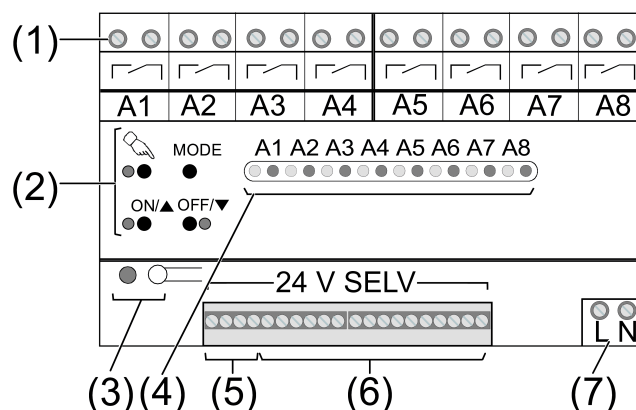

Figure 1: Device components
- Mount device on DIN rail. The load terminals (1) must be at the top (see figure 1).